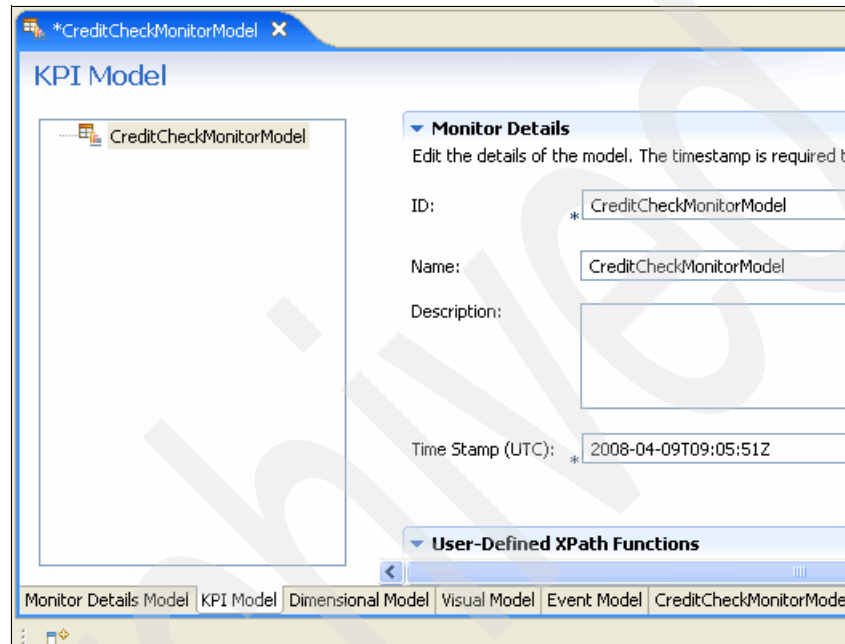

Figure 10-67 KPI Model details panel of the monitor model
1. In the monitoring model editor, click the **KPI Model** tab at the bottom of the panel (Figure 10-67).